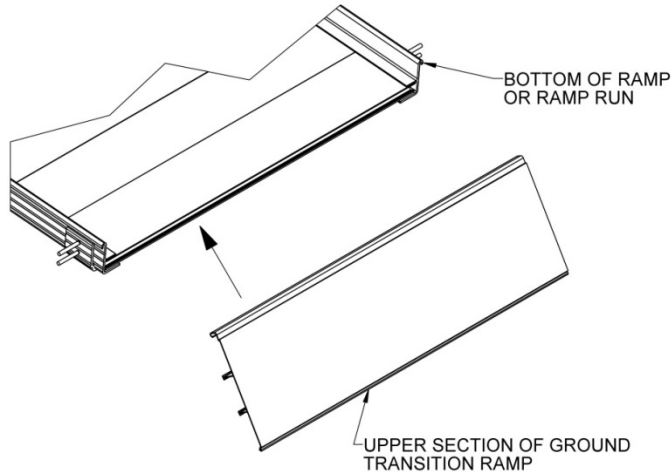
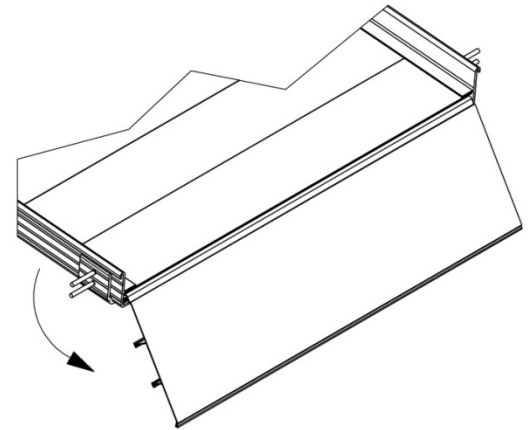

FIG. 3.10
FIG. 3.11
3.4.2. Lift the lowest end of the ramp/ramp run and bring the upper section PRGT into the ramp end tread until the “hook” is engaged (FIG. 3.10), then rotate into place (FIG. 3.11) and set back on the ground.